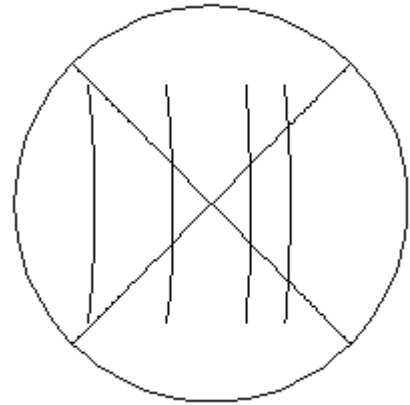

Fig 11. Curvature of the spectral lines.
(1) If you were a perceptive observer, you noticed that the spectral lines were slightly curved. This is illustrated (exaggerated) in Fig. 11. This may have stimulated your scientific curiosity, causing you to wonder *why* they were curved. You can figure this out by considering the geometry of rays passing through the spectrometer, originating from various points on the slit, say from top, bottom, or middle of the slit.
(b) Show how you could have predicted from optical theory *which direction* they should curve. In Fig 11, is the red end of the spectrum to the left, or to the right?